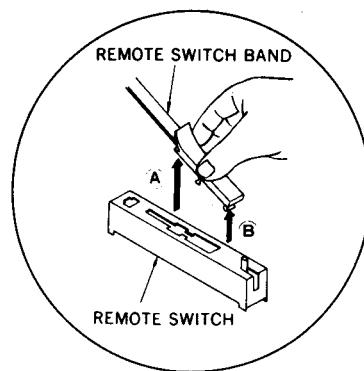

Fig. 4
2. When removing, remove **(A)** in figure 4 first.
3. When attaching, attach **(B)** in figure 4 first, and then install **(A)**.